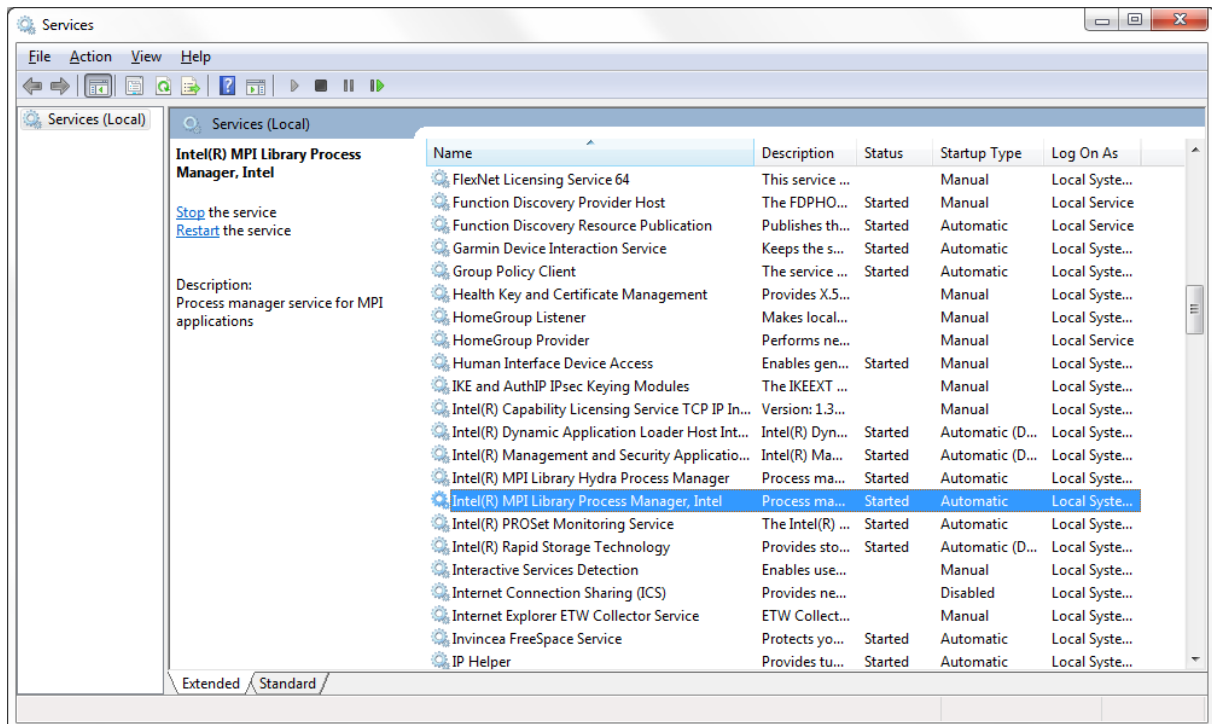

Figure I.1.4: Intel-MPI service.
- Find the directory of Intel-MPI service to be removed. This directory can be found by clicking on properties of the existing service (e.g., "C:\Program Files\Intel MPI 4.0\x64"), see Figures I.1.4 and I.1.5. The name of the executable associated to the service can also be found in the properties of the service. By supposing that the name of the executable is "smpd.exe", Type in the command prompt: